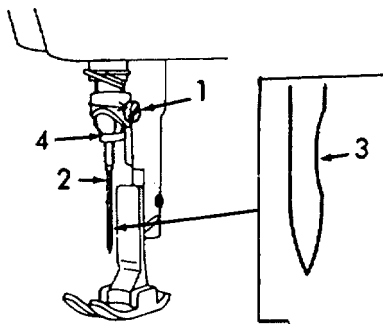

Figure 2-21. Needle, Installation.
- (5) Refer to Figure 2-21. Loosen needle clamp setscrew (1).
- (6) Hold the needle (2) so that the long groove (3) or scarf and the flat of the needle shank (as applicable) is facing toward the right of the machine.
- (7) Insert the needle shank as far up as it will go into the needle slot in the needle bar (4).
- (8) Tighten the needle clamp setscrew (1).